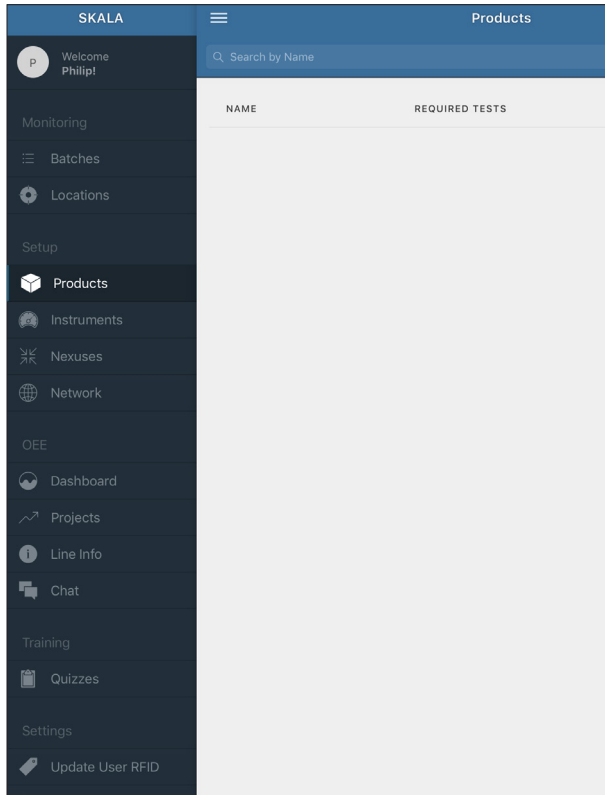

Figure 31 Products option in Main menu
3. Select the plus symbol on the Products screen to add a new Product (Figure 31).